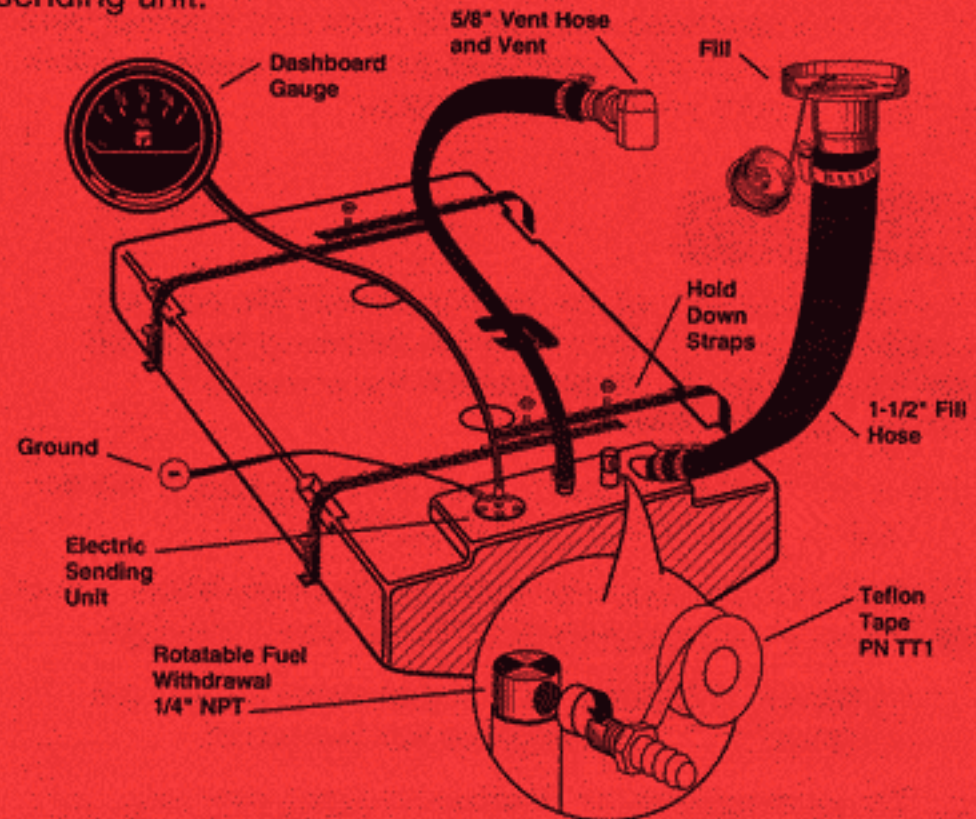

Figure 1
- After installation, and before filling tank with fuel, the entire fuel system (from the deck fill to the engine, including the fuel tank) **shall** be pressure tested to 3 psi. It is recommended this pressure be maintained for a minimum of 5 minutes. (refer to Figure 1.)